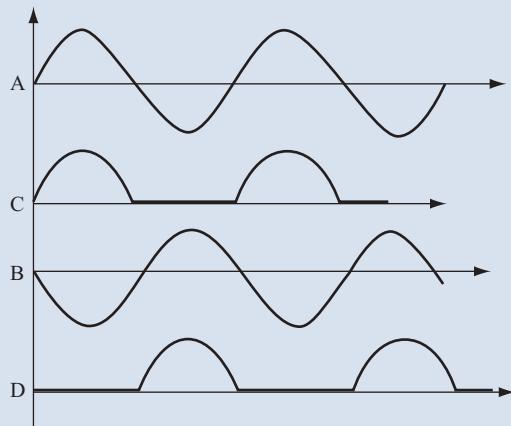
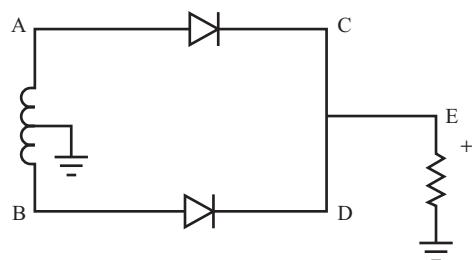

FIGURE 11.14
FIGURE 11.15
- C.** See Figure 11.14.
- 11** Figure 11.15 shows a circuit in which diodes connected to the ends of a center-tap transformer are connected to ground through a single resistor. The output voltage waveforms from both diodes are therefore applied across one load resistor. This type of circuit is called a *full-wave rectifier*.
On a separate sheet of paper, draw the waveform representing the voltage at point E in the circuit, as shown in Figure 11.15. (This waveform is a combination of the waveforms at points C and D shown in Figure 11.14.)
How does this circuit differ from the circuit shown in Figure 11.15? _____